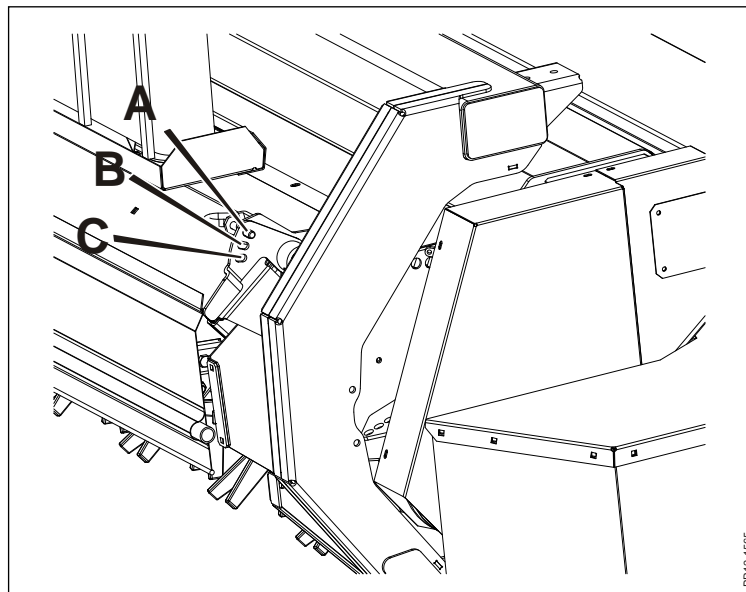

Fig. 3-20
**Fig. 3-20** When the belt unit is inactive, the stop guard must be down in position **A**. When the belt unit is active, the stop guard must be adjusted to one of the holes shown at **B** and **C** in order for the material to be thrown up on the belt. The hole you use depends on the amount of grass. In most cases **B** is used.